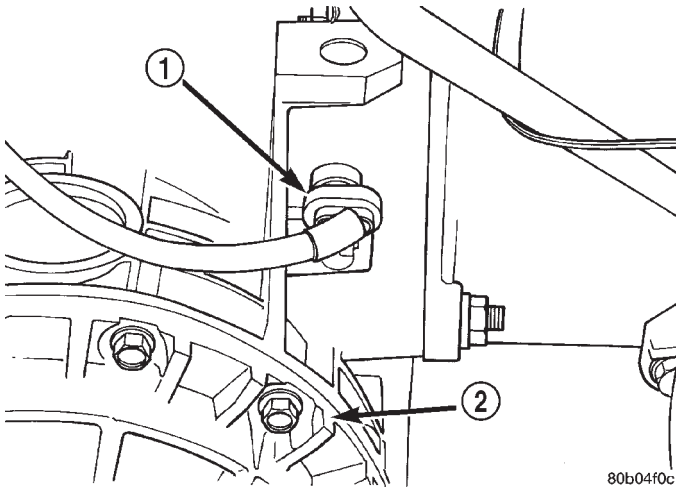

Fig. 103 Crankshaft Position Sensor Location
(13) Remove nuts retaining exhaust pipes to transmission mount.
(14) Loosen clamp at right extension at right catalytic converter. Remove right extension.
(15) Disconnect crankshaft position sensor connector and remove sensor (Fig. 103). The sensor is located on the upper right side of the transaxle bell housing.